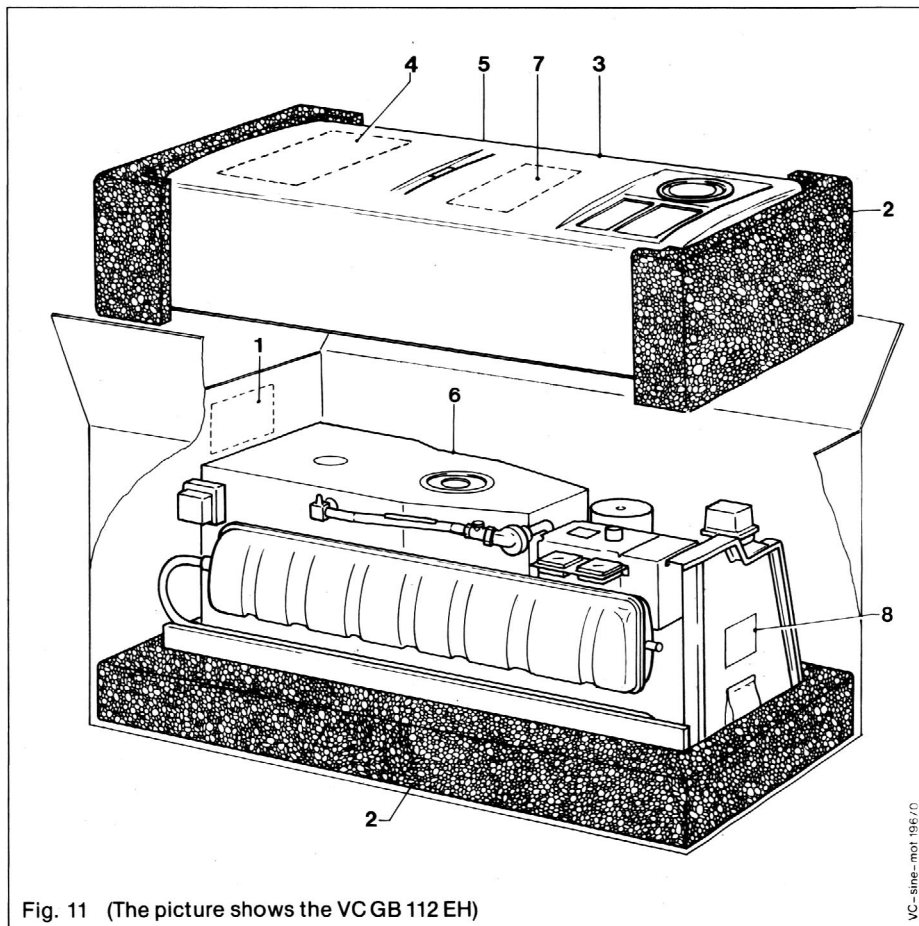

Fig. 11 (The picture shows the VCGB 112 EH)
the cased boiler (item 1, fig 11),